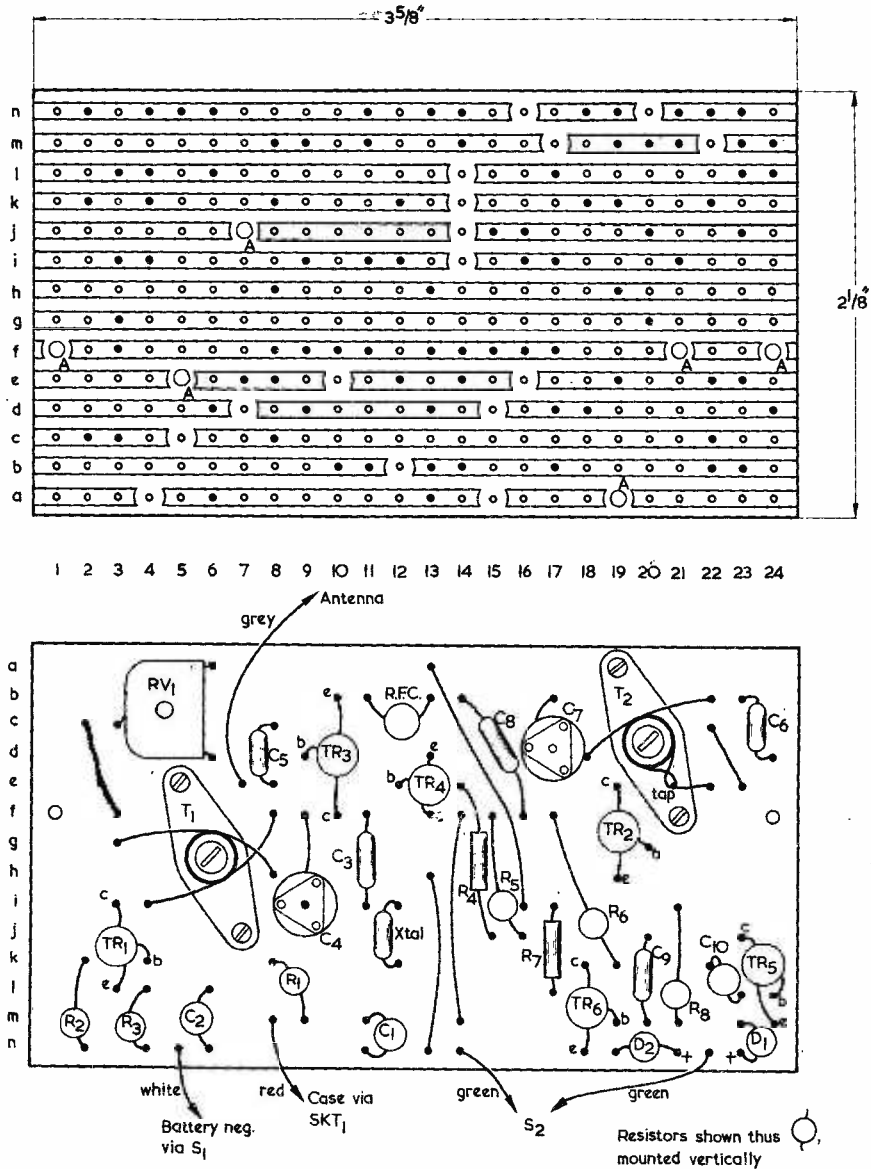

Fig. 4. The copper and component sides of the Veroboard. All holes marked "A" are drilled 6BA clear. The copper must be cut back from the edges of these holes
Start construction by cutting the Veroboard panel to size, as shown in Fig. 4, and then drill the board as indicated. The holes marked "A" are 6BA clear. Next, break the copper strips, exactly as shown in the diagram, using either a small drill or the special cutting tool that is available. The copper strip should be slightly cut back from around the holes that have been drilled in the panel.
(1). Solder five shorting links, with sleeving, in place on the Veroboard panel, as shown in Fig. 4. Bolt the 0.27in diameter coil formers for T_1 and T_2 , with iron-dust cores, in place on the panel using 8BA screws, nuts, and *insulated* washers under the nuts. The iron-dust cores should be screwed fully in and then locked in place with plastic cement.
(5). Solder all remaining components and leads to the Veroboard panel, as shown in Fig. 4. Note that RV₁ is a standard 10k Ω skeleton pre-set potentiometer, and that before attempting to solder this component in place the diameter of the mounting legs should be reduced with the aid of a file, so that they fit easily in the holes in the panel. Note also that the legs should be bent so that the component slopes back at an angle of 45° when soldered in place. The r.f. choke may be a normal low value